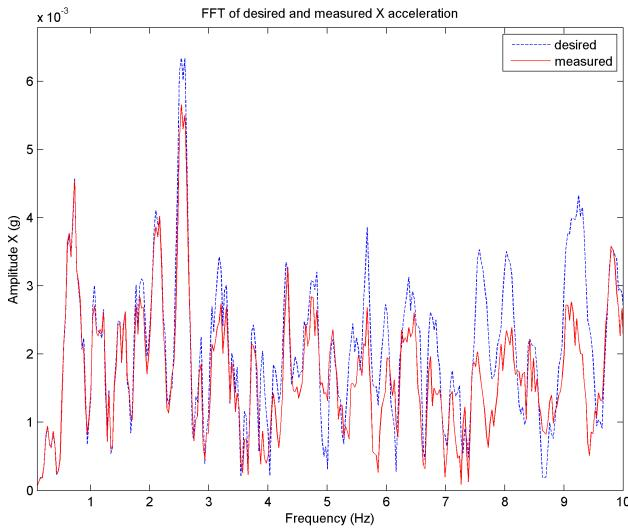

Figure 2.11: FFT of desired and measured acceleration along x-axis after running Northridge earthquake
3. To produce the acceleration power spectrum, $A(\omega)$, similar to Figure 2.11, run *fft_eval_acc.m*. The blue and red traces are the desired and measured accelerations, respectively.